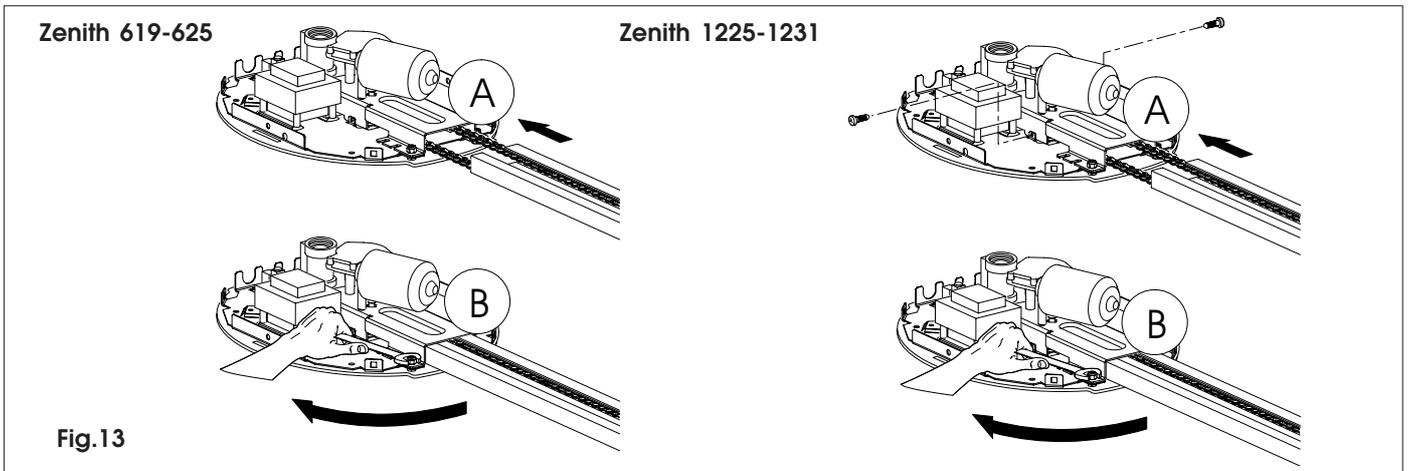

Fig.13
6.8 Re-position the motor unit and insert the longitudinal member – as shown in figure 13 (ref. A) - up to the stop.
6.9 Tighten the motor unit with an appropriate wrench (fig. 13 ref.B).